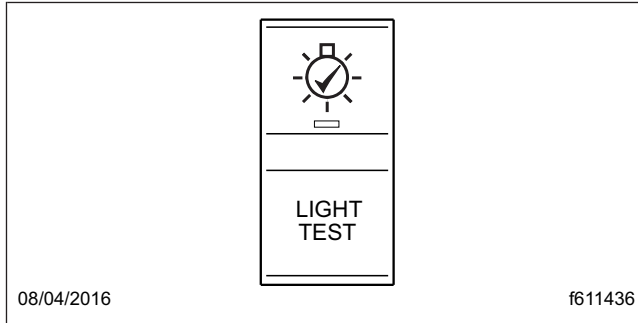

Fig. 21.7, Pretrip Light Test Switch
11. Check the operation of all exterior lamps manually or, if equipped, by using the LIGHT TEST switch on the dash. See Fig. 21.7.